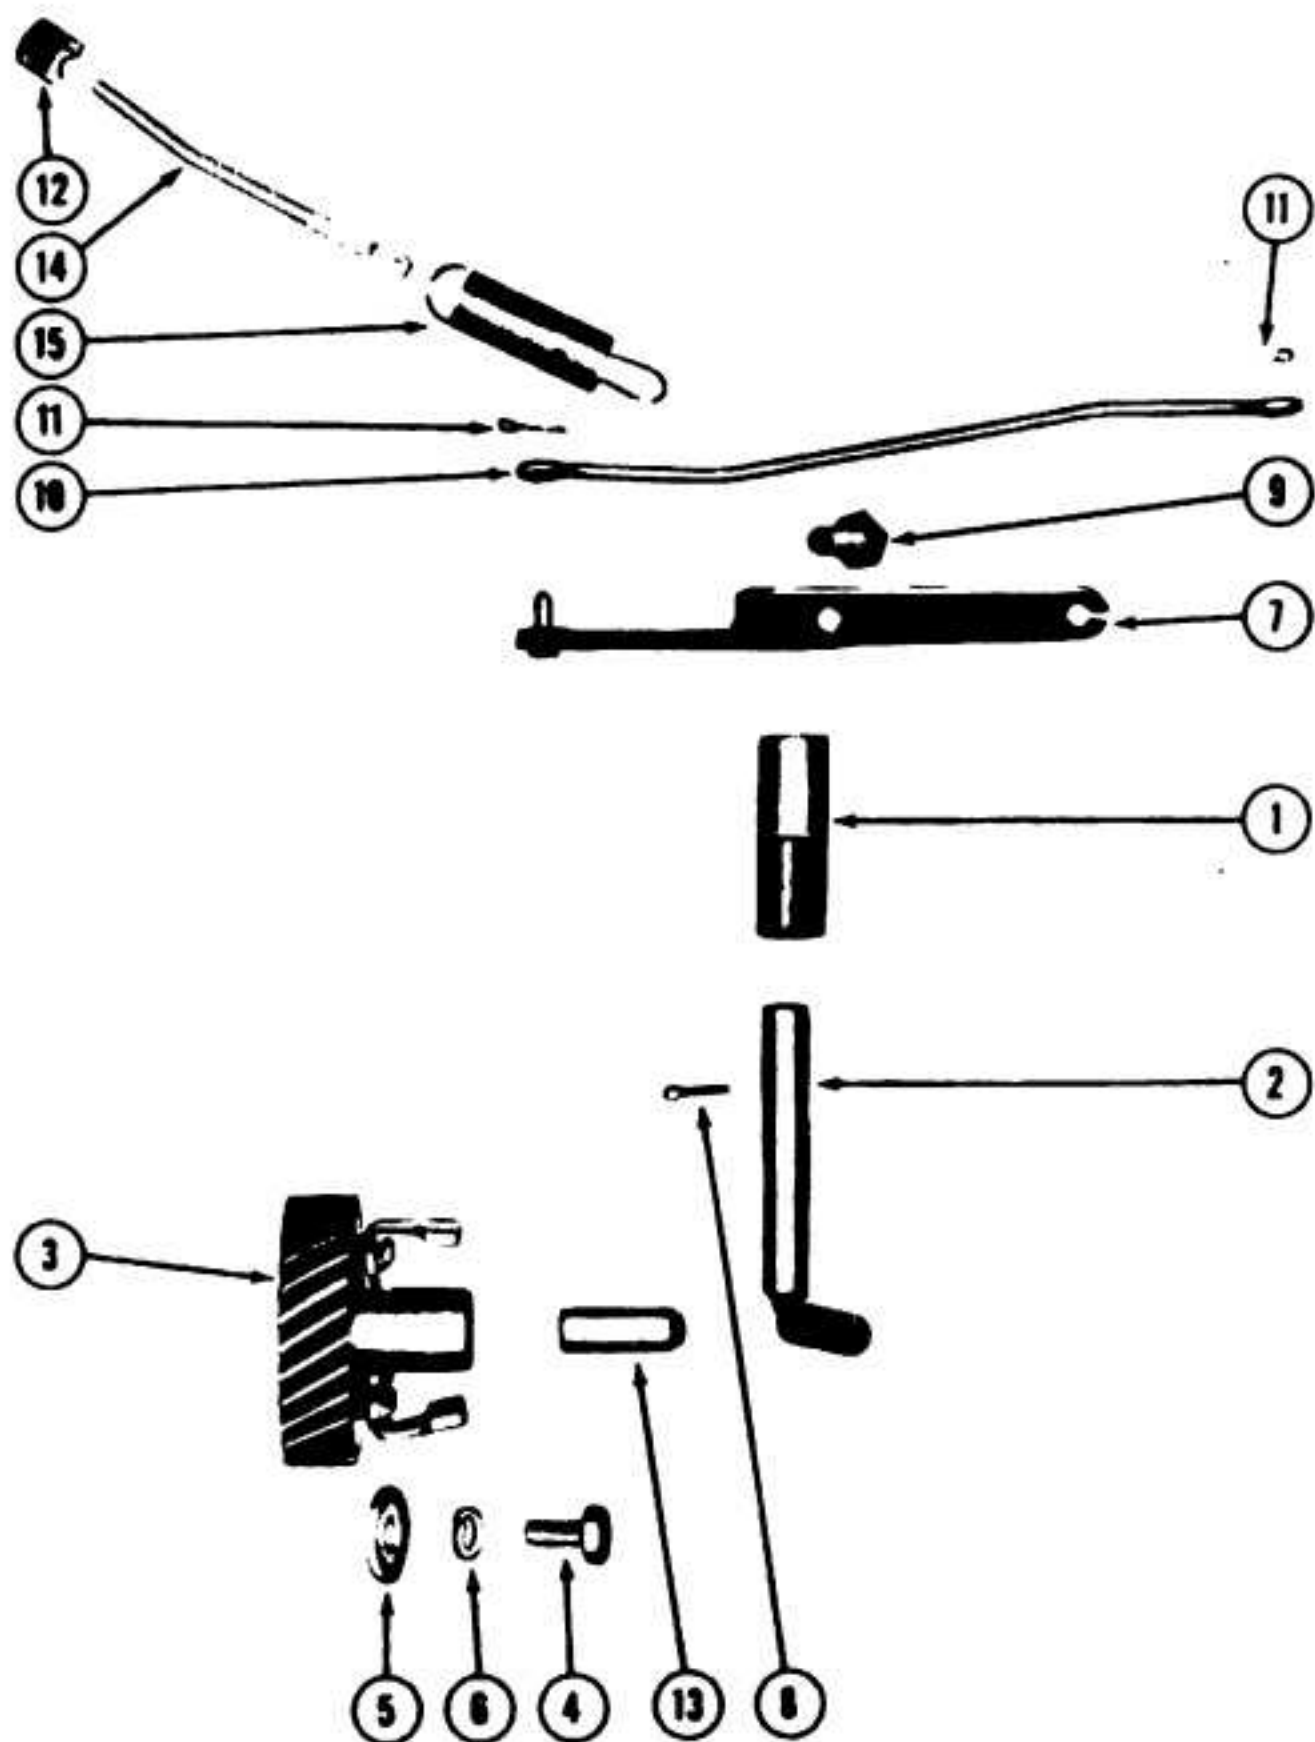

Figure 41—Exploded View of Governor Parts
(2) Slide out the governor gear assembly; remove the governor crank and the governor plunger. (See figure 41.)